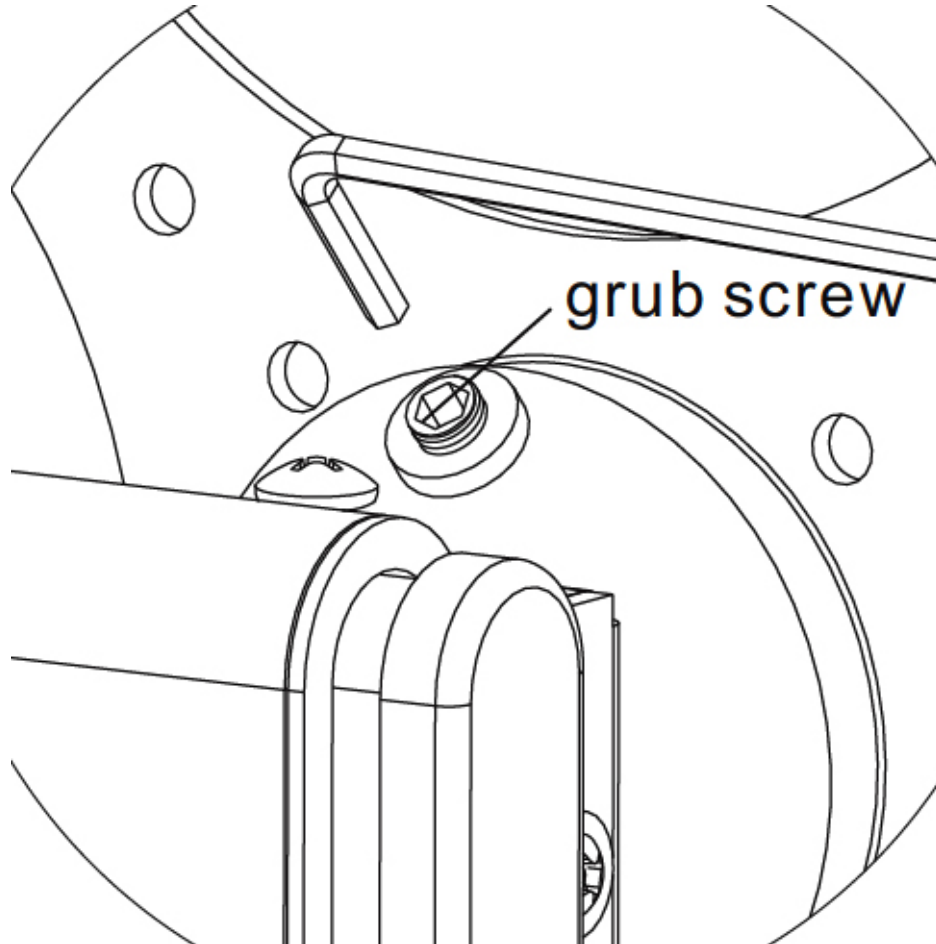

Figure 4b
- Adjust the monitor's tilt angle, use the **Allen Key (o)** to loosen the **Grub Screw**, then tighten the Grub Screw to fix the tilt angle as shown in **Figure 4b**.